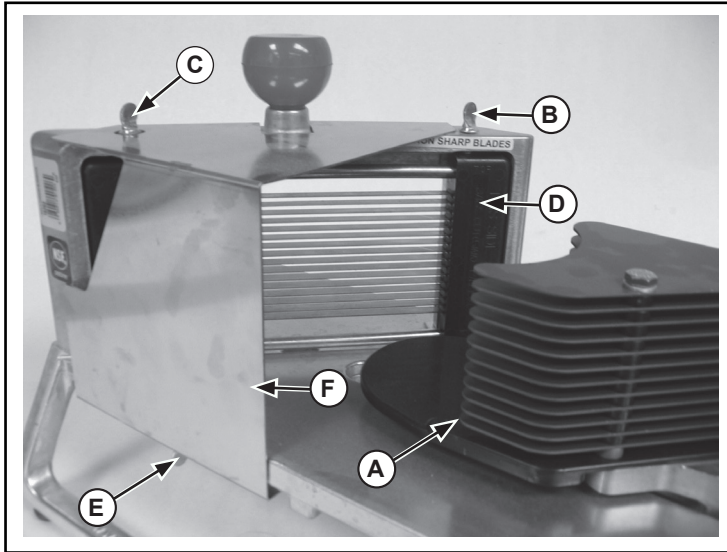
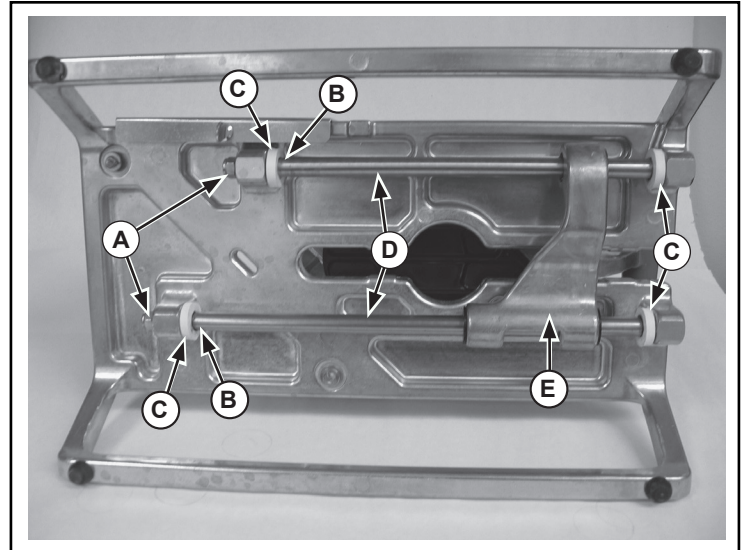
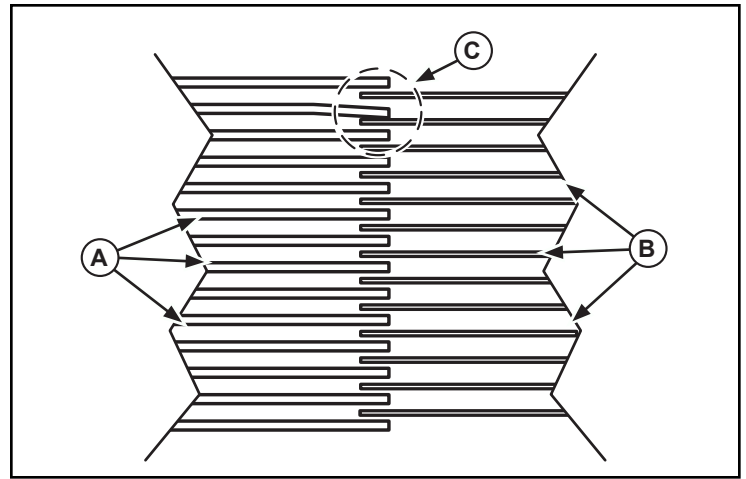

Figure 1. Blade Assembly and Guard Removal and Installation
Figure 2. Guide Rod, Nylock Nut and Washer Removal and Installation
Figure 5. Pusher Head Fingers and Blade Assembly
1. Slide the pusher head assembly (A) out and away from the blade assembly (D). See Figure 1.
4. Hold guide the rods (D) using a wrench on the flats (B) and remove the nylock nuts (A). See Figure 2.
5. Note the position and location of the washers (C) and orientation of the pusher head assembly (E). Slowly remove the guide rods (D) and washers (C).
6. Retain the nylock nuts (A) for reuse. Retain the washers (C) if they are going to be reused or discard if they are going to be replaced.
10. Install the guide rods (D) by sliding through bumpers (C) and pusher head (E) as shown in figure 2.
11. Secure the guide rods (D) using the nylock nuts (A) removed earlier.
15. Install the blade assembly (D) securing with thumb screws (B and C). See Figure 1.
1. Reinstall the guard (F) securing with thumb screws (C and E). Your InstaSlice™ is now ready to use. See Figure 1.
1. Note which pusher finger(s) (A) are making contact (C) with the blades (B). See Figure 5. See Figure 1.